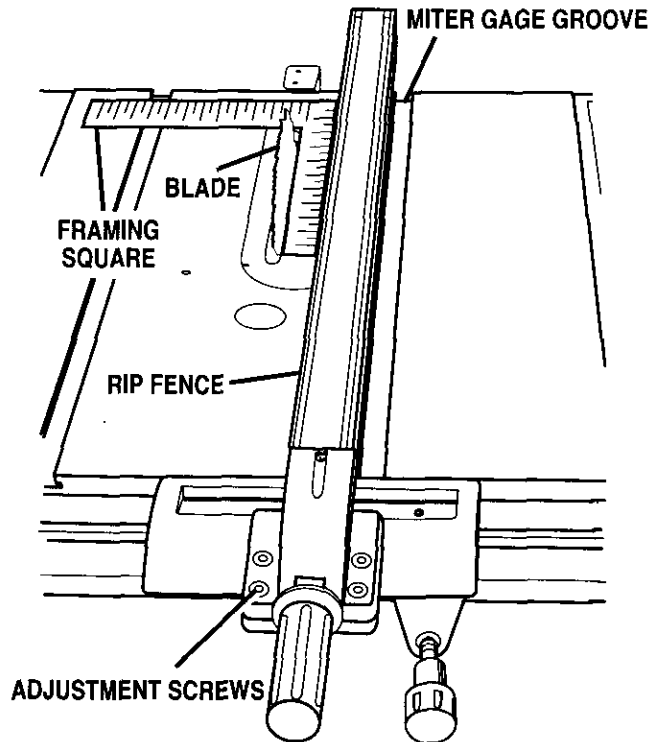

Fig. 39
- Move the square to the back of the blade and measure the length from other end of the rip fence to the blade. See Figure 39.